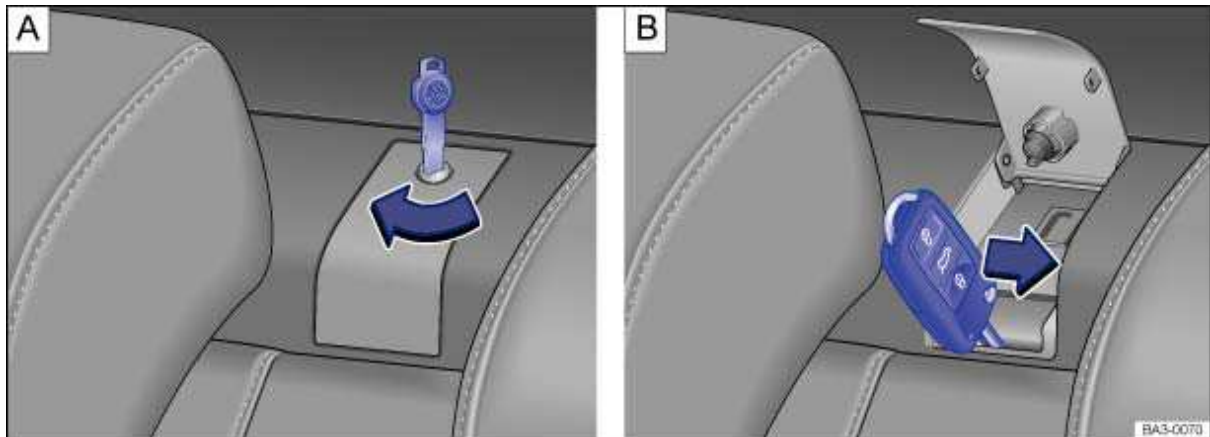

Fig. 197 Behind the rear seat backrest on the driver side: releasing the rear seat backrest.
- If the cover plate is locked, insert the Valet Parking key into the lock behind the rear seat backrest ⇒ fig. 197 A and turn in the direction of the arrow to unlock the cover plate.